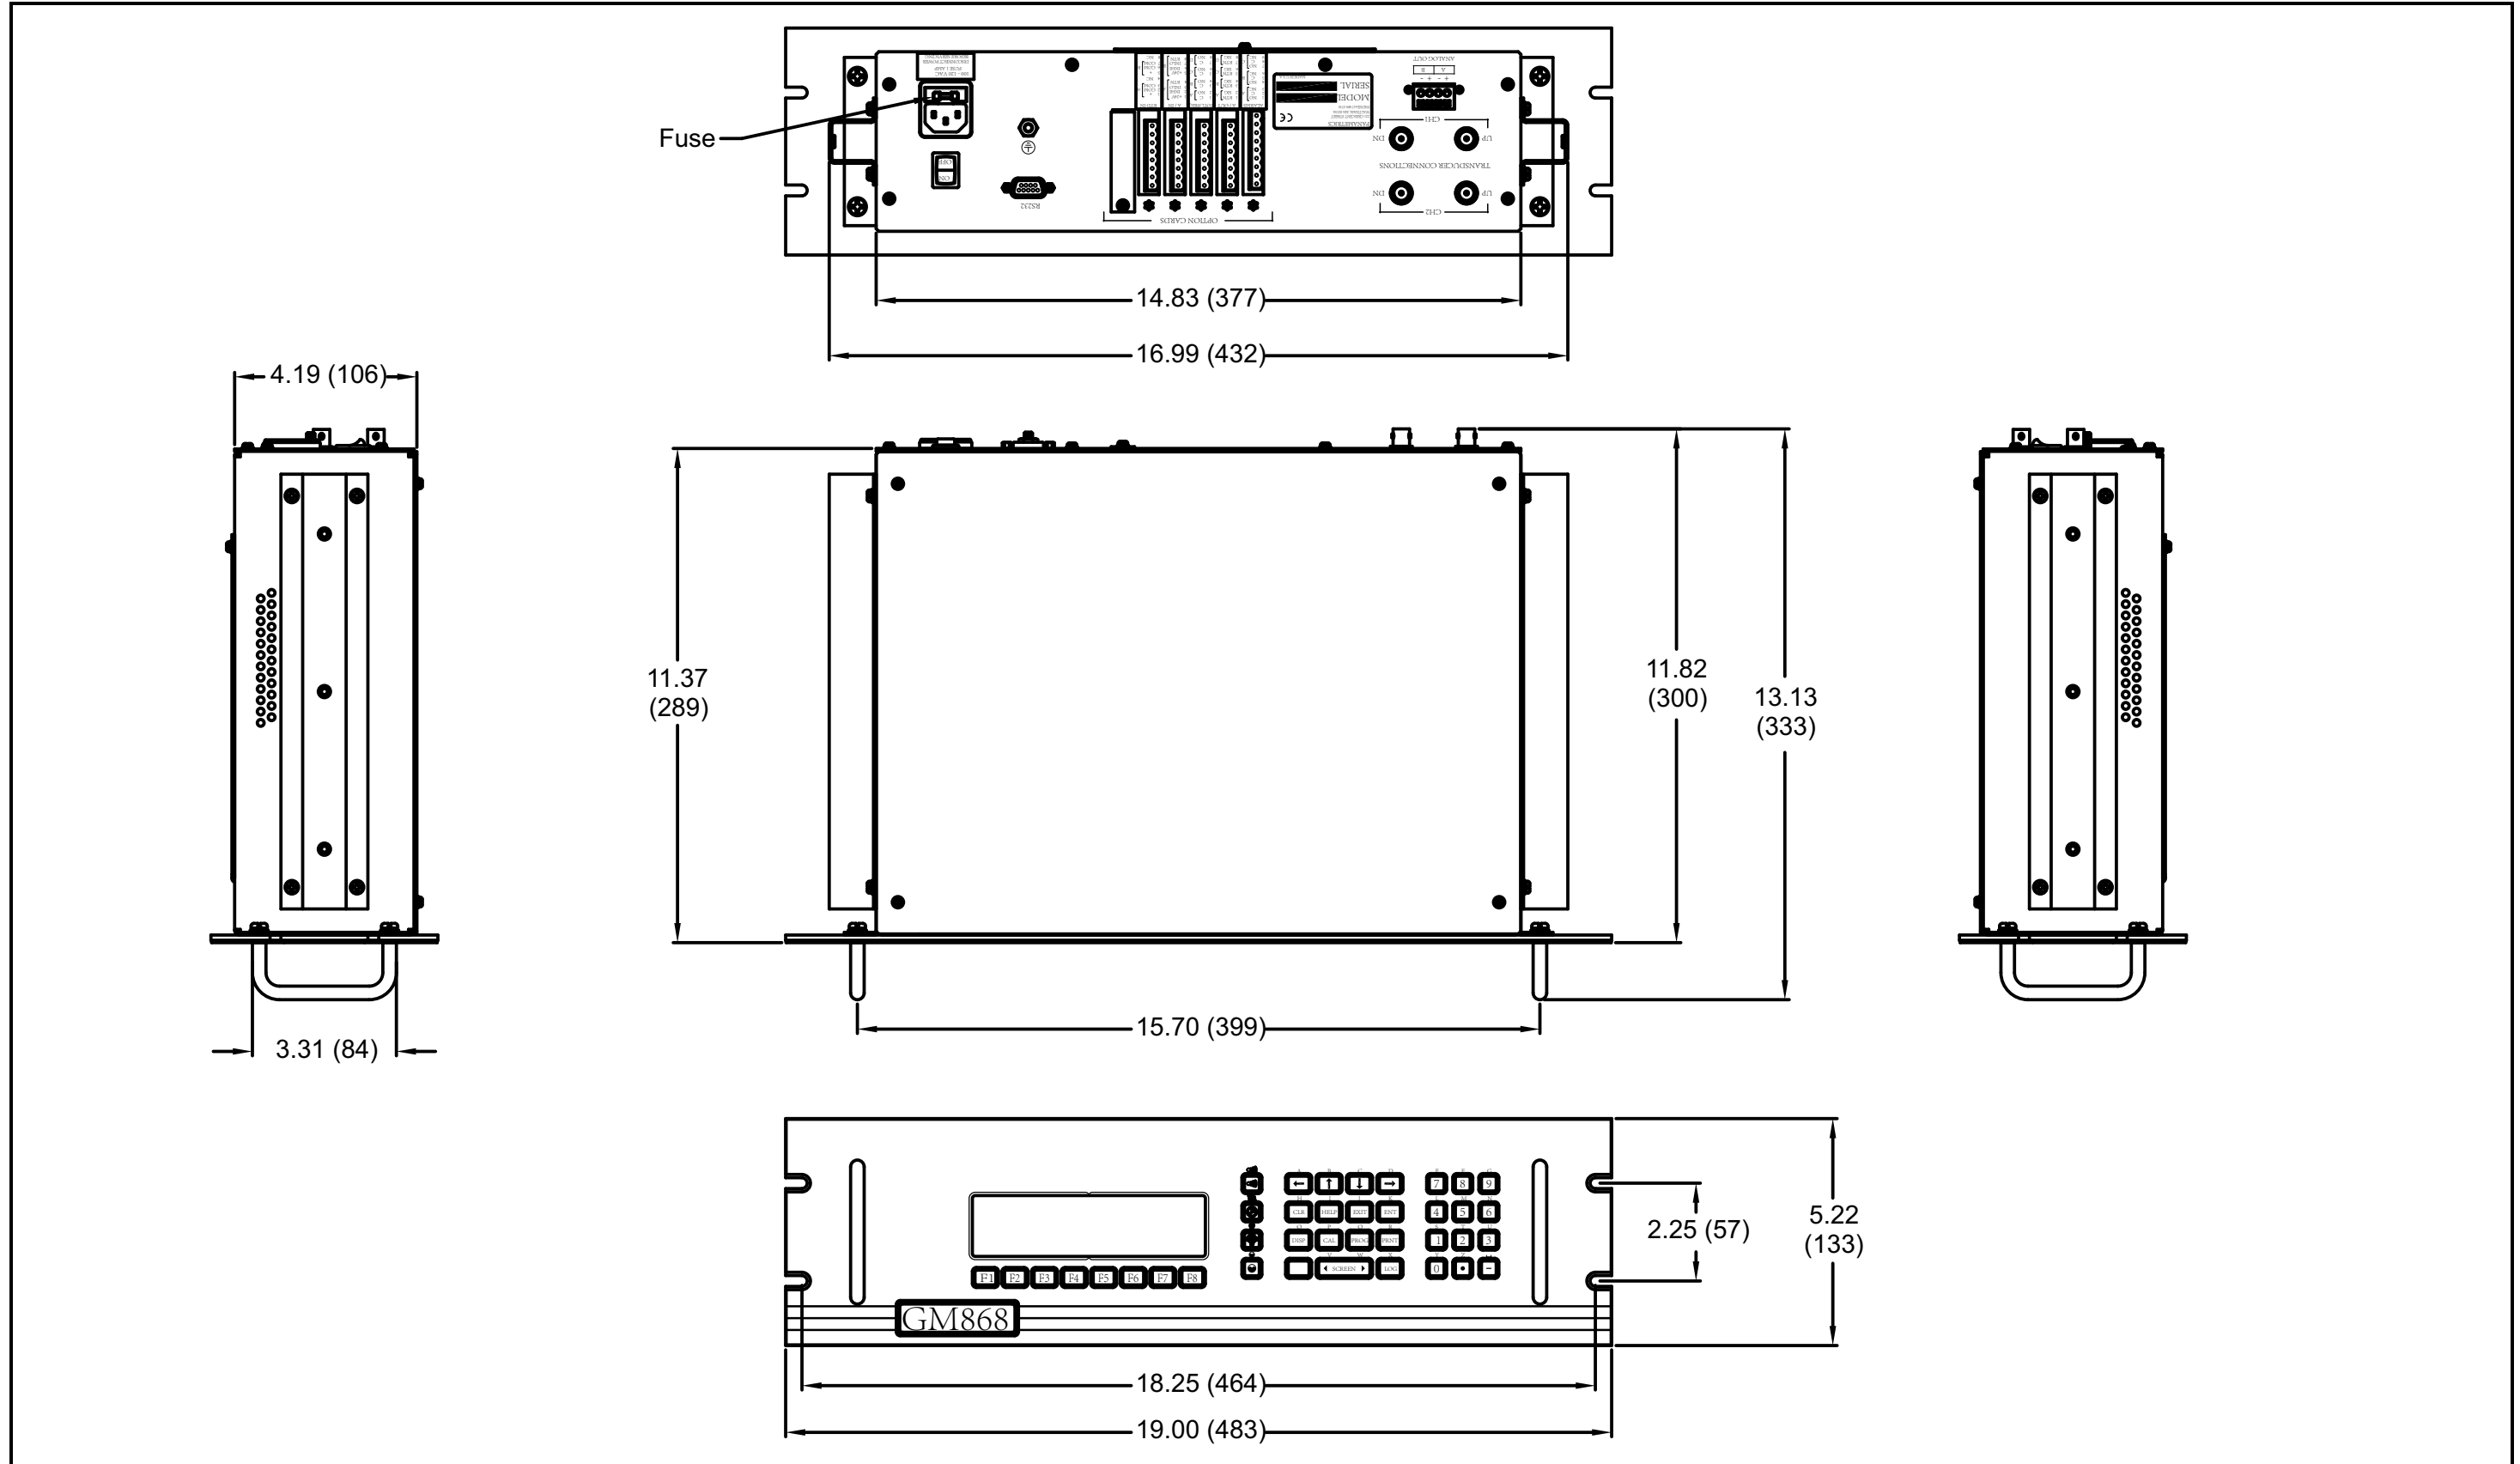
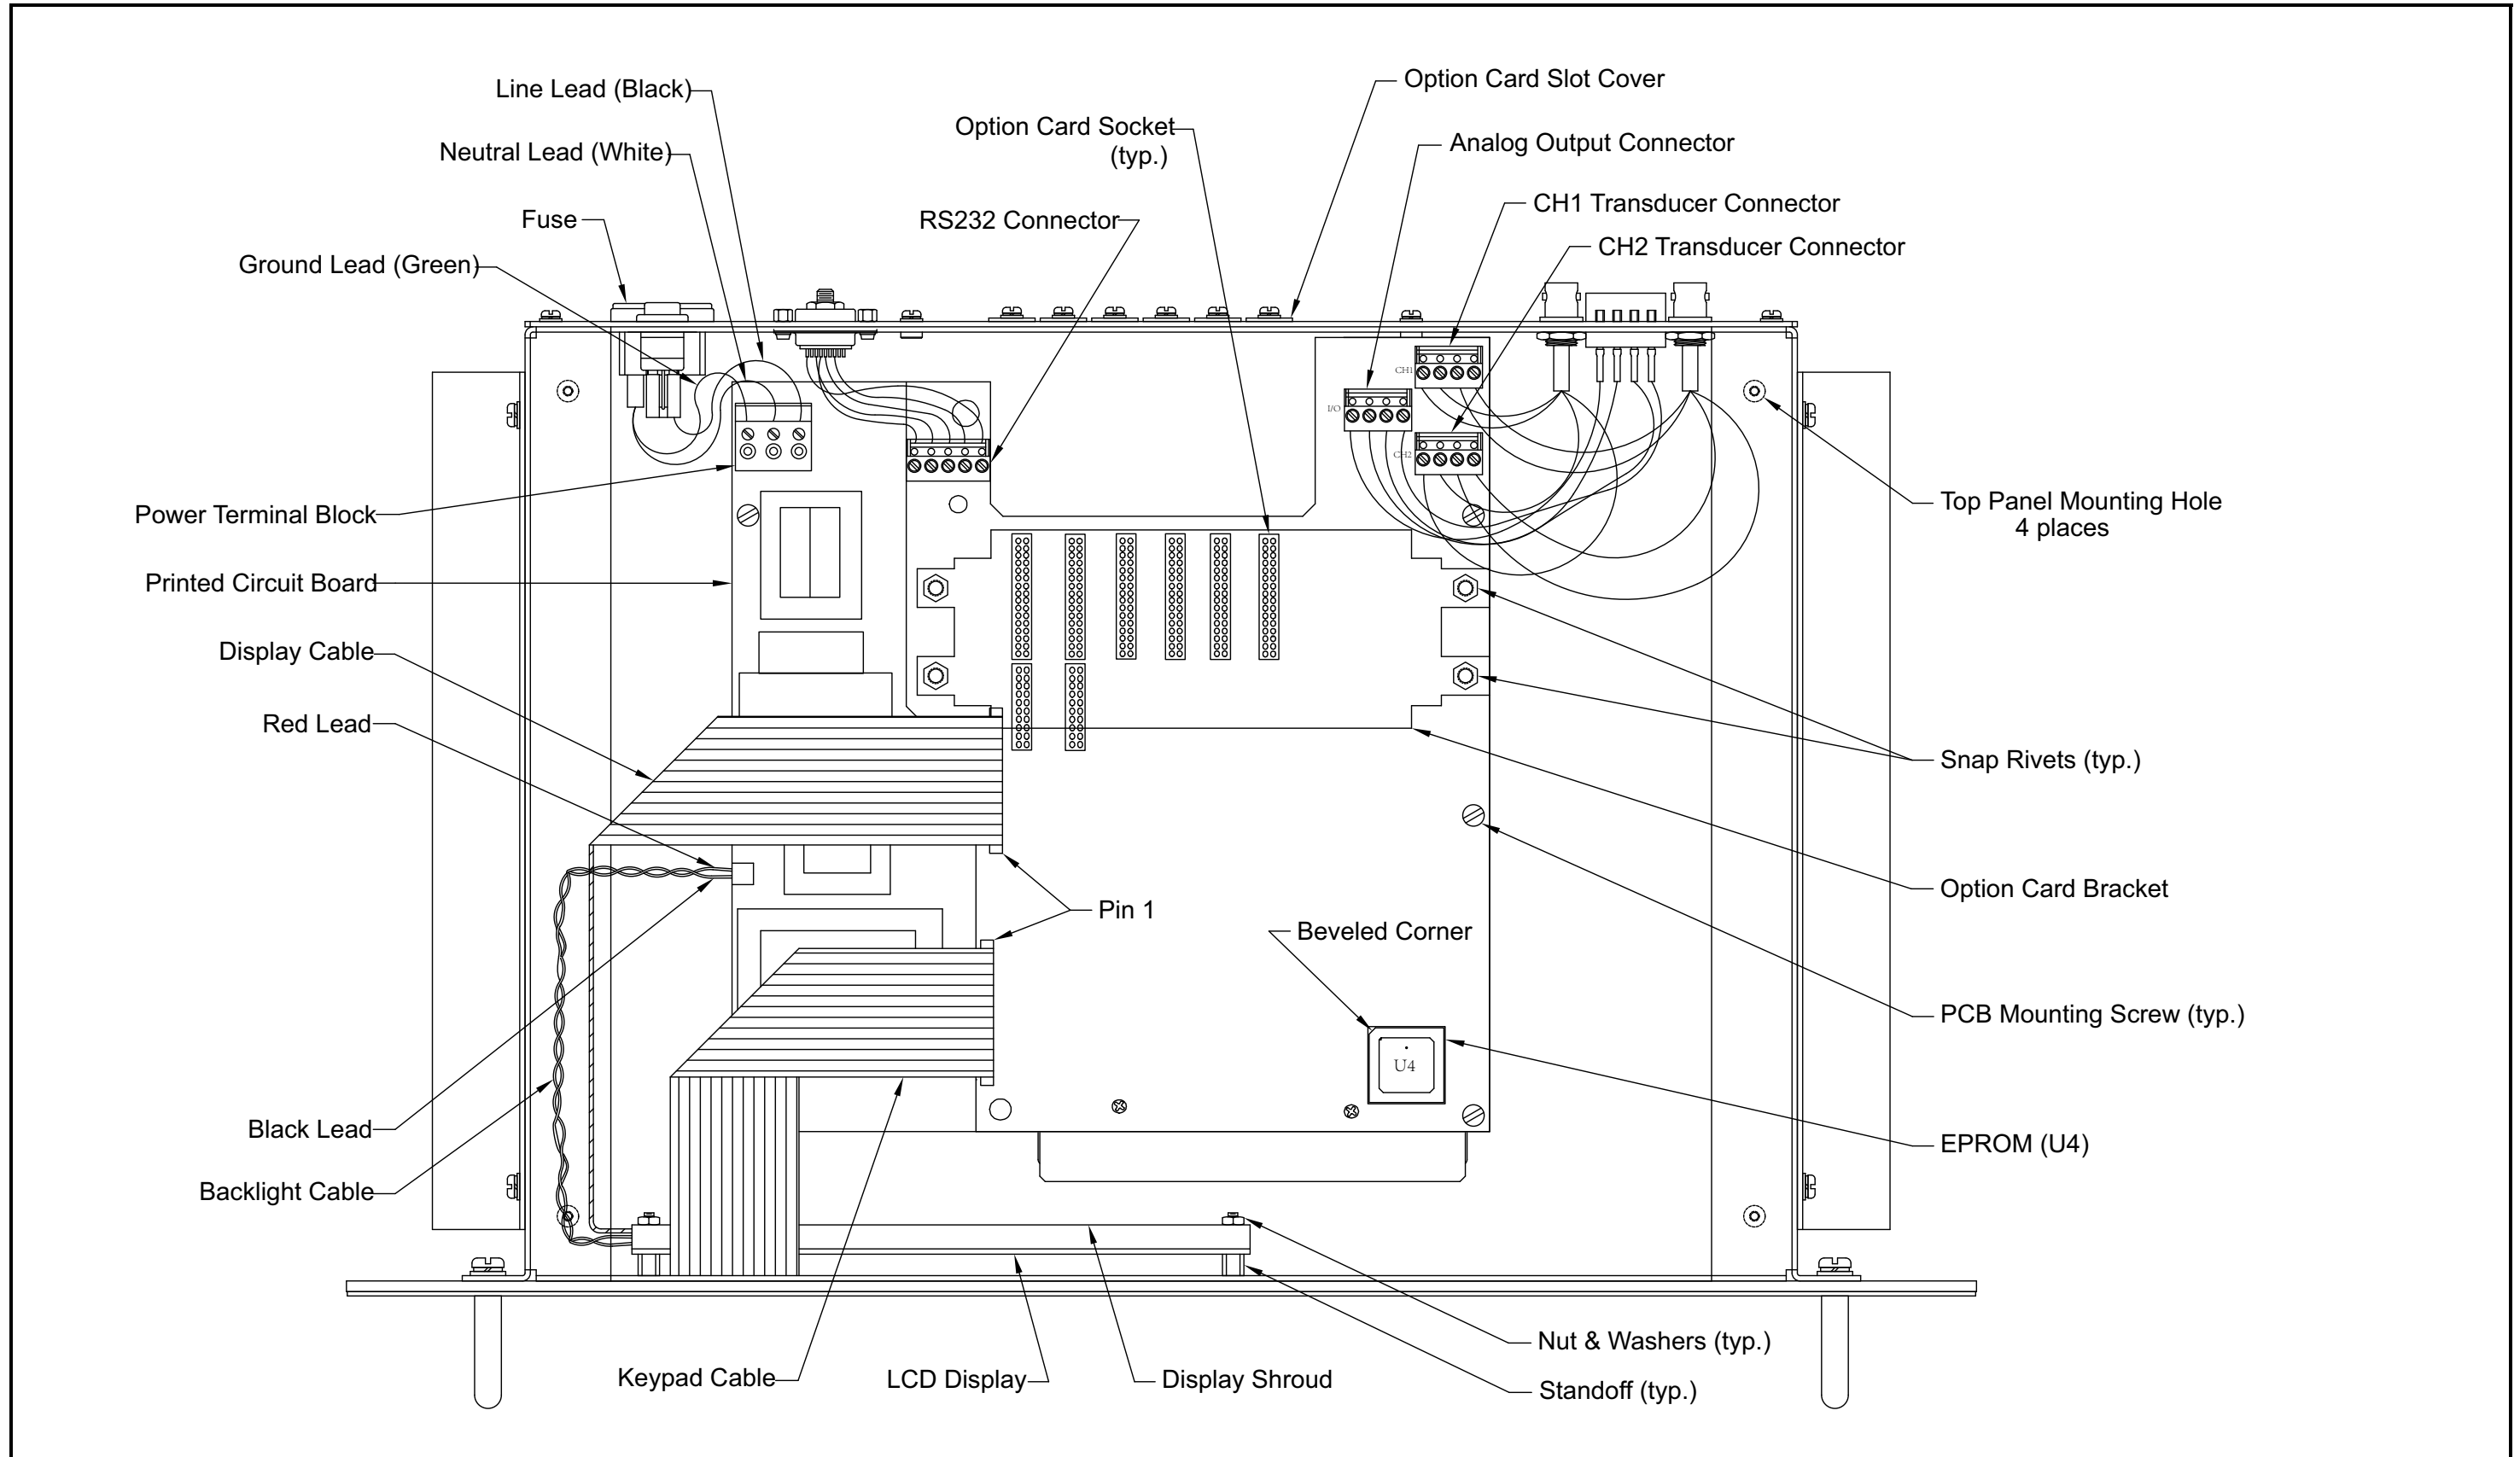

Figure 10: Model GM868 Rack Mount Enclosure Dimensions - (ref. dwg #712-1076)
Figure 11: Model GM868 Rack Mount Console Assembly - (ref. dwg #705-849)
Refer to Figure 10 on page 51 and Figure 11 on page 52 for the location of the relevant components, while completing the following procedures. If the top panel of the meter is accessible, service may be performed without removing the meter from the rack. Otherwise, disconnect all rear panel electrical connections and remove the meter from the rack before proceeding.
If it has been determined that the fuse in the Model GM868 requires replacement, refer to Figure 10 on page 51 and Figure 11 on page 52, and complete the following steps:
Refer to Figure 11 on page 52 and complete the following steps:
EPROM replacement may be required to replace a defective chip or to upgrade to a newer software version. To replace the EPROM, refer to Figure 11 on page 52 and complete the following steps:
To replace the LCD display, refer to Figure 11 on page 52 and complete the following steps:
5. Install the RS232, ANALOG OUT and TRANSDUCER connectors onto the printed circuit board at the locations indicated in Figure 11 on page 52. Make sure the marked pin #1 sides of the connectors face the right side (keypad side) of the enclosure.